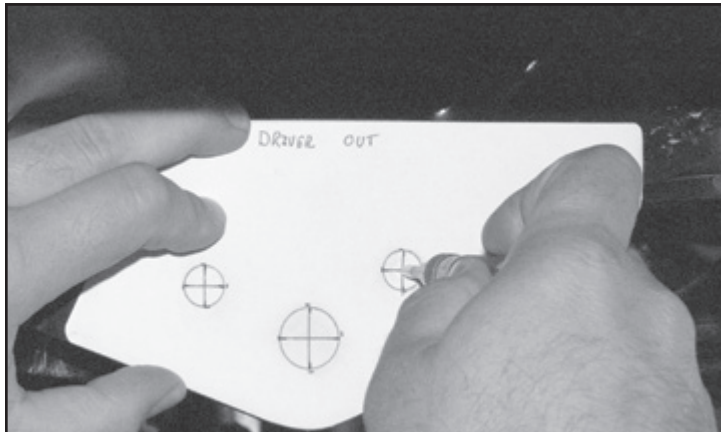

FIGURE 35 - STEP 43
43. Line up the drill template with the factory Radius arm bracket and mark the two holes around the radius arm pivot bolt. **SEE FIGURE 35**